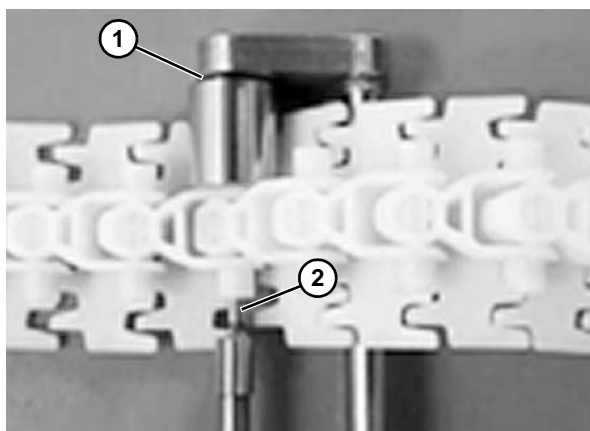

Figure 49
3. Line the FlexMove chain tool (**Figure 49, item 1**) up with the pin (**Figure 49, item 2**). Slowly depress the trigger until the pin seats. A slight detent will be felt when pin is seated.